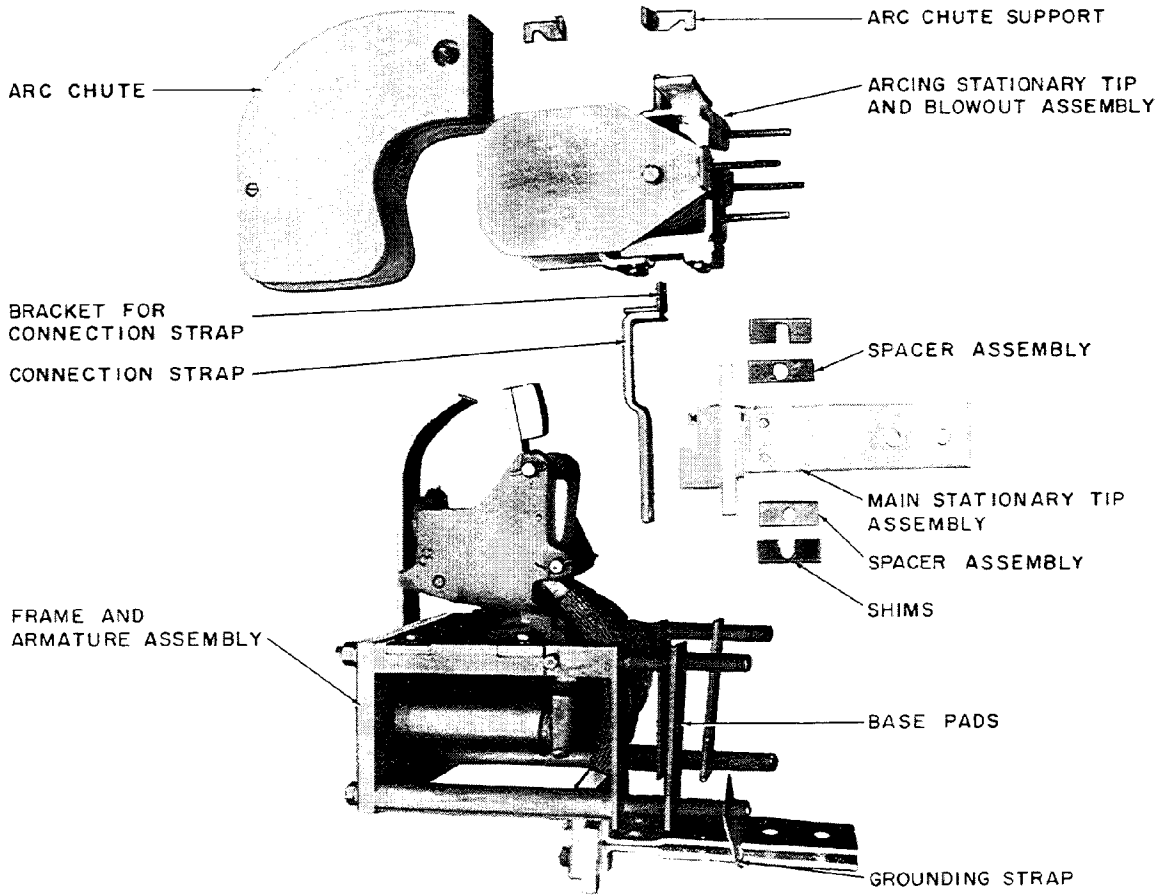
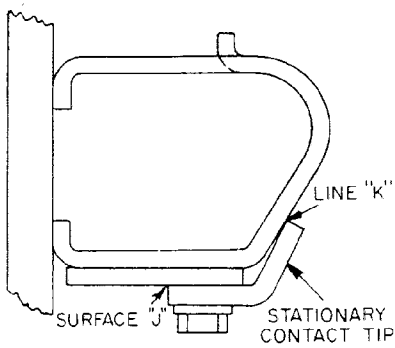
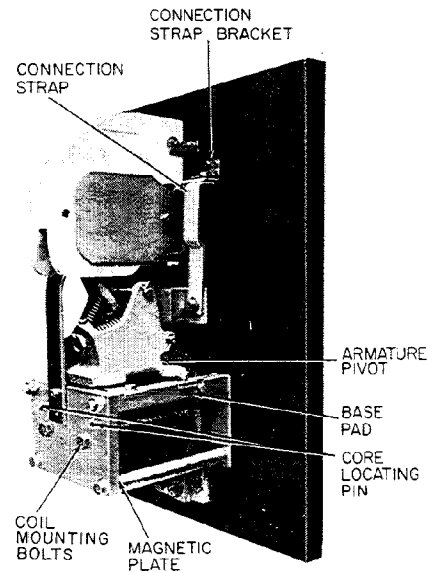

Fig. 4. IC2800-1178 contactor (unmounted).
Fig. 4A. Stationary arcing contact bracket.
Fig. 5. IC2800-1178 contactor (mounted).
Contactors IC2800-1178 and IC2800-1180 are for assembly directly on the purchaser's insulation base or panel of 1-1/2 to 2-inch thickness. Drill the base in accordance with the outline and drilling plan supplied with the contactor. For estimating purposes, Fig. 3 gives typical outline and drilling plans which include mounting electrical interlocks. Then, referring to Figs. 4 and 5, assemble and adjust the contactor as follows:
1. Mount the arcing stationary tip and blowout assembly (See Fig. 4). The stationary contact tip must be assembled as shown in Fig. 4A. The tip must be flush with surface "J" and line "K".
3. Connect the blowout coil and the main stationary-tip assembly with the connection strap. The spacer with the tapped hole must be under the main stationary-tip assembly where this connection is made. The connection strap does not rest against the panel. The bracket for the connection strap must be as shown in Fig. 5.
4. Mount the frame and armature assembly as a unit (Fig. 4) although they are two separate pieces. Make sure that the armature fits into its pivot (Fig. 5), the base pads are in place on both sides of the panel, and the grounding strap is in place on the back of the panel.
To remove the coils, first disconnect the coil leads. Then, remove the assembly containing the magnet plate, cores, and coils by removing hardware located at "A," see Fig. 4. After assembly has been removed from the contactor, remove the coil mounting bolts.